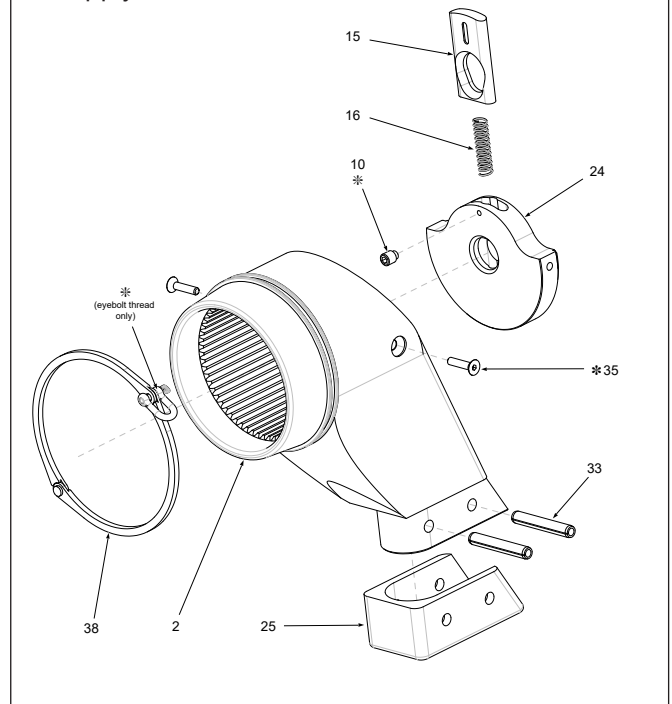

Figure 16: Exploded Reaction Arm
7.2.4 Reaction Arm - Disassembly and Reassembly (Fig. 16)